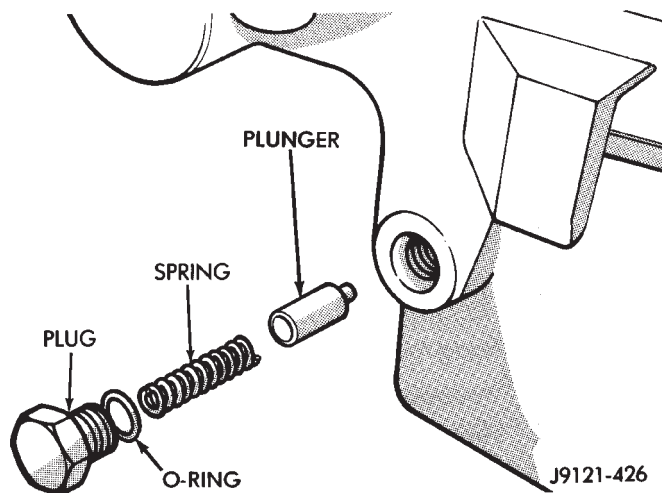

Fig. 49 Installing Detent Plunger, Spring And Plug
(3) Install range lever and lever attaching nut on shift sector. Tighten attaching nut to 30 N m (22 ft. lbs.) torque.
(4) Install detent plunger, spring and plug (Fig 49). Tighten plug to 20 N m (15 ft. lbs.) torque.